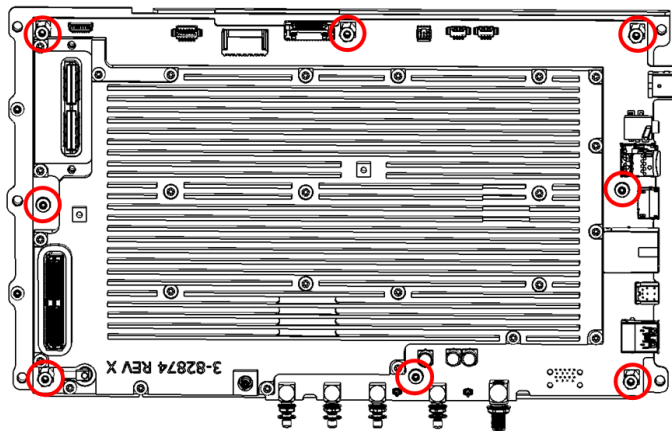

**Figure 5-14.** Main PCB and Bracket Separation
1. Remove the five stand-offs and three screws shown in Figure 5-14.